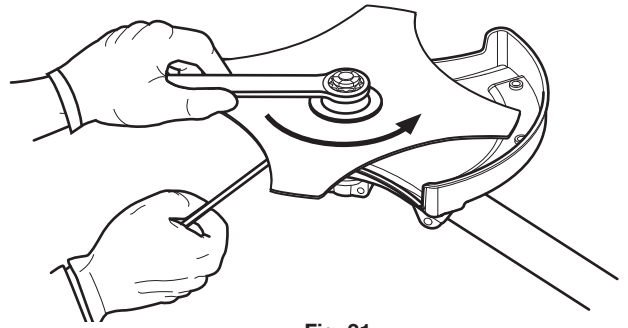

Fig. 31
7. Tighten the nut counterclockwise with a wrench (Fig. 31):